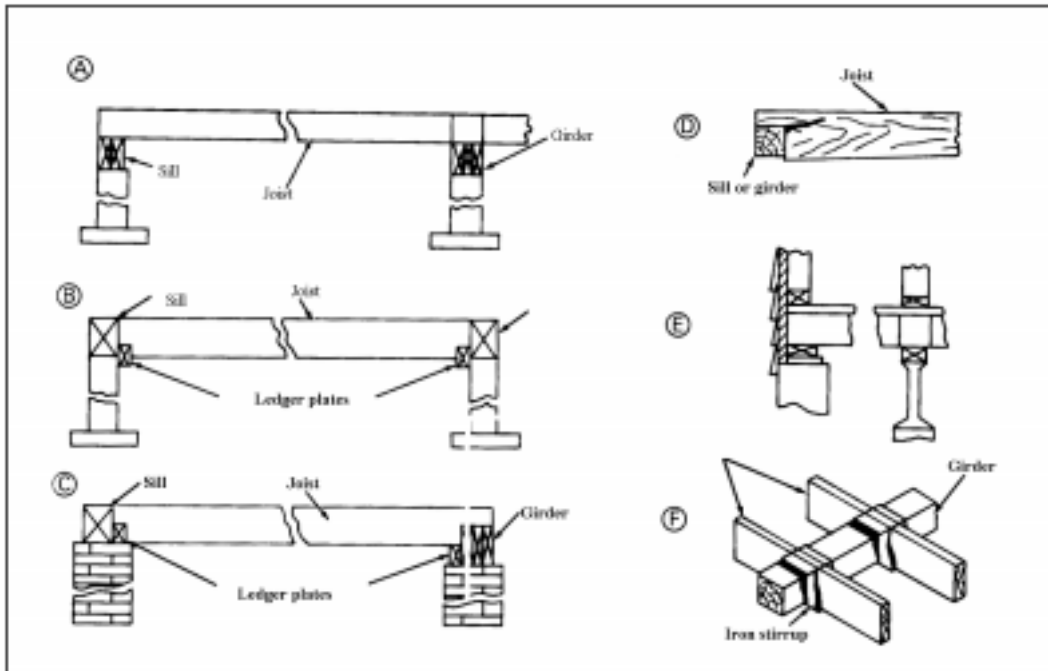

Figure 051-236-1141-2
- (1) Connect floor joists to sills.
- (2) Connect to girders (Figure 051-236-1141-2).